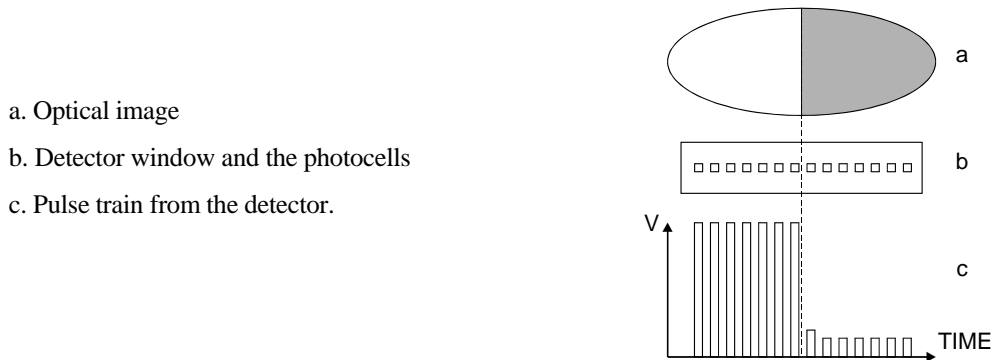
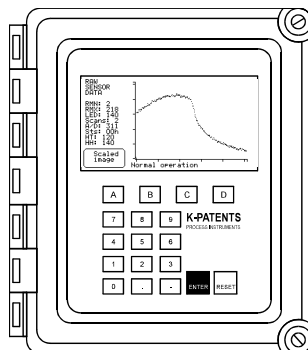
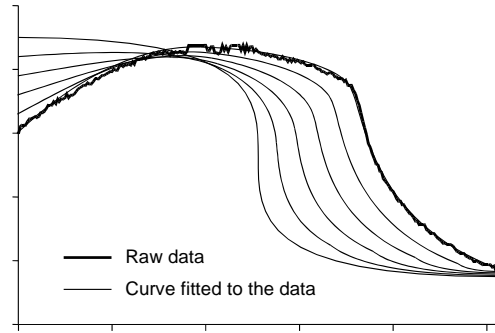
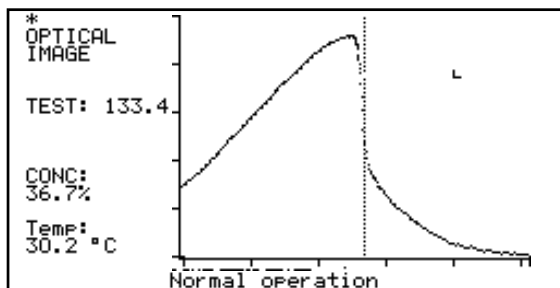

Figure 2.41 Image detector system.
Figure 2.50 The Indicating Transmitter.
Figure 2.52 Image analyzing algorithm.
Figure 2.72 The Optical Image.
The image detector output is a pulse train as shown in Figure 2.41. This number of high pulses corresponds to the position of the shadow edge in the optical image. The number of high pulses is a direct measure of the critical angle. The image digitizer (E) transforms this pulse train to a serial digital signal. This serial signal transmits a package containing a complete description of the optical image and temperature data to the Indicating Transmitter.
Note. K-Patents Sanitary Refractometer PR-03 is using a 1024-pixel CCD-element. To keep the supporting computer software compatible for all K-Patents Refractometers, the TEST value (= number of photocells at the light side) is scaled to the range 0-256. That is, for PR-03 the number of high pulses (Figure 2.41) is divided by four.
The Indicating Transmitter (Figure 2.50) receives a serial signal from the Sensor describing the optical image and also giving the process temperature. The microprocessor system displays the optical image (Figure 2.72) and implements an image analyzing algorithm (Figure 2.52), which identifies the exact position of the shadow edge shown in Figure 2.41.
Shows the Optical Image, Figure 2.72. The light area (high pulses) is to the left, the dark area (low pulses) is to the right, compare to Figure 2.41. The vertical scale is 0-100 % of highest pulse amplitude, the horizontal scale expresses the numbers of the photocells 0-1024. The three leftmost pulses represent additional dark reference cells.